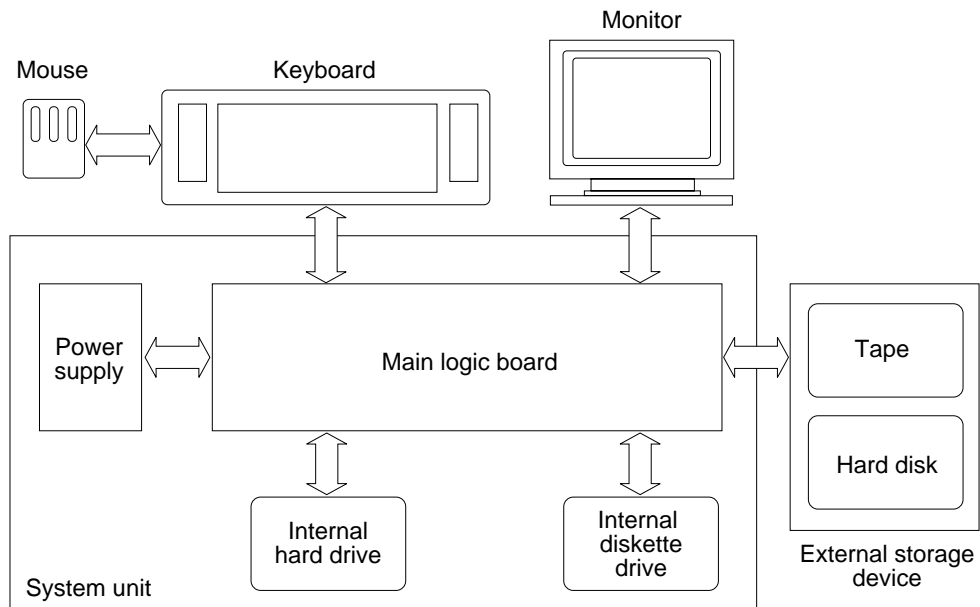

Figure 1-1 SPARCstation 2 Block Diagram
- Figure 1-1 illustrates the system's configuration with an external storage device.
Figure 1-1 is a block diagram of one of the workstation's configurations.